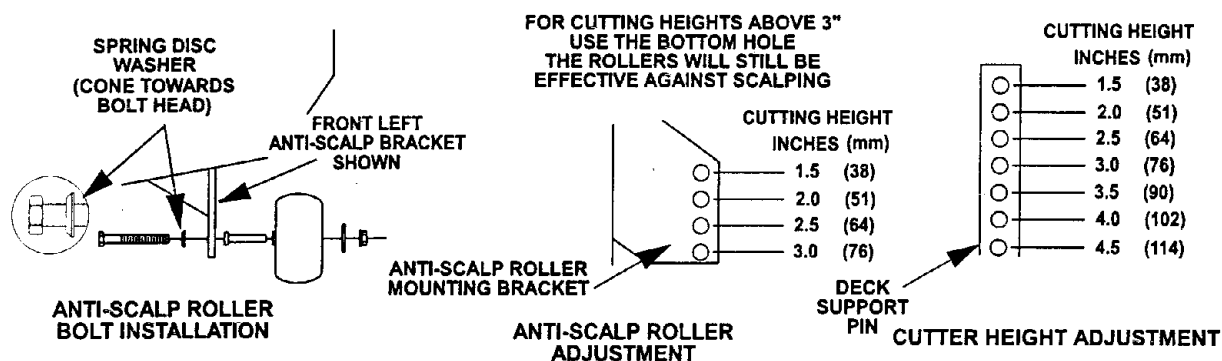

FIG 7
- a) Install hairpin clips in the holes shown on sketch below for the desired cutting height (See Figure 7).
- b) For maximum deck flotation, rollers should maintain 1/4 in. (6.4 mm) clearance to ground. **Do Not** adjust rollers to support the deck. Be sure roller bolts and nuts are installed with the spring disc washer between head of the bolt and mounting bracket (See Figure 7). Torque to 40-45 ft-lbs, or loss of roller may result.
- c) When operating in extremely rough conditions it may be necessary to position the anti-scalp rollers one or two holes higher than described in "b" to prevent damage to the rollers and/or bolt failure (See Figure 7).